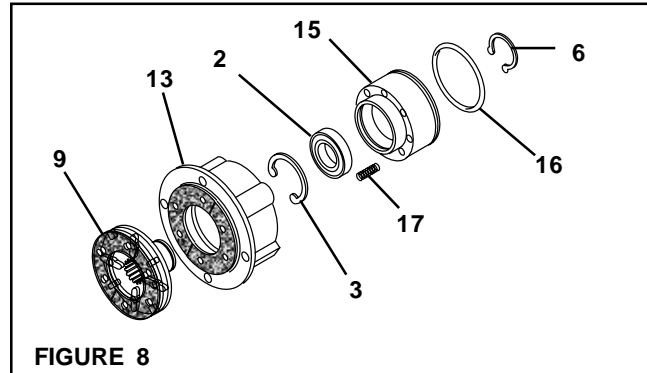

FIGURE 8
4. Using a “C”-clamp or Arbor press fixture, press the Piston (Item 15) into the Air Chamber (Item 13); then, remove the Retaining Ring (Item 6) from the Splined Disc (Item 9) (See Figure 8).
6. Press the Splined Disc (Item 9) from the Bearing (Item 2) (See Figure 8).
7. Remove the Piston (Item 15) and Compression Springs (Item 17) from the Air Chamber (Item 13) (See Figure 8).
8. Remove the Retaining Ring (Item 3) from the Piston (See Figure 8).
9. Remove the old O-ring Seal (Item 16) from the Piston (See Figure 8).
10. Press the Bearing (Item 2) out of the Piston (Item 15) (See Figure 8).
13. Carefully align the outer race of the new Bearing (Item 2) with the bore of the Piston (Item 15) (See Figure 8).
16. Coat the o-ring contact surfaces of the Air Chamber, Piston, and the O-ring Seals with a thin film of o-ring lubricant and install the new O-ring Seals (item 16) (See Figure 8).
17. Reinstall the Compression Springs (Item 17) into the Piston (Item 15) (See Figure 8).
18. Slide the Piston (Item 15) into the Air Chamber (Item 13) (See Figure 8).